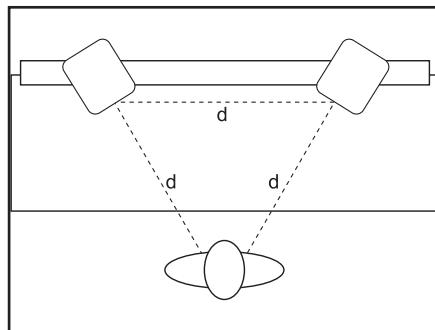

Figure 3
- *Near-Field Configuration* – In a control room situation, the monitors are often times placed on the meter bridge or in a close-field listening position. Initial placement starts by measuring out a simple equilateral triangle (all three sides equal in length) with the apex at the center of the listening position as an “overlay” for the stereo installation. In this configuration, the Left and Right monitors are each placed at a  $60^\circ$  angle, equidistant from the listening position. (Figure 3)